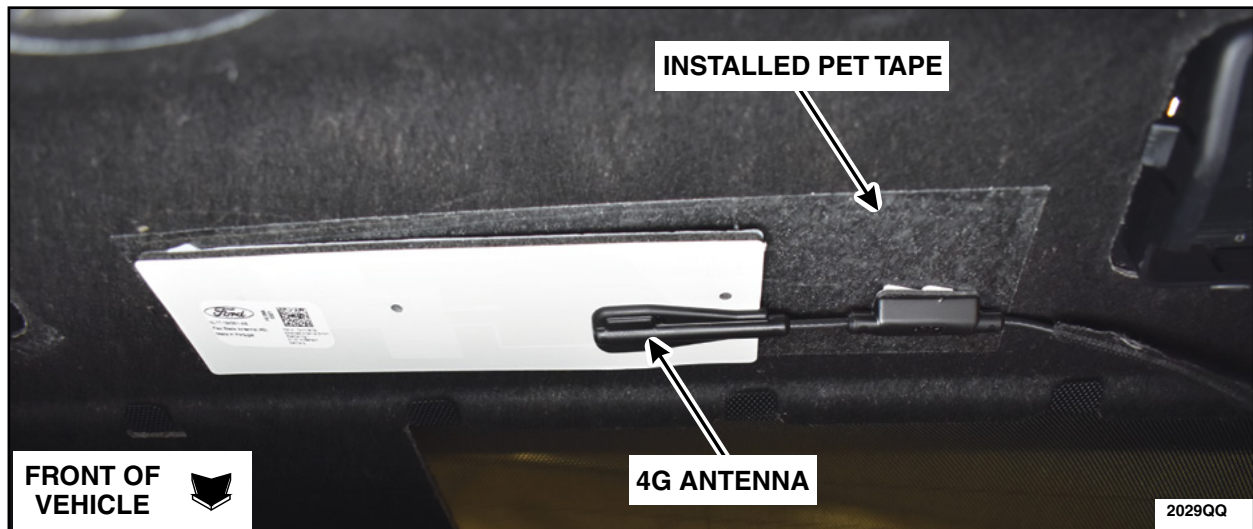

FIGURE 6
7. Install the *new* 4G antenna. See Figure 6.